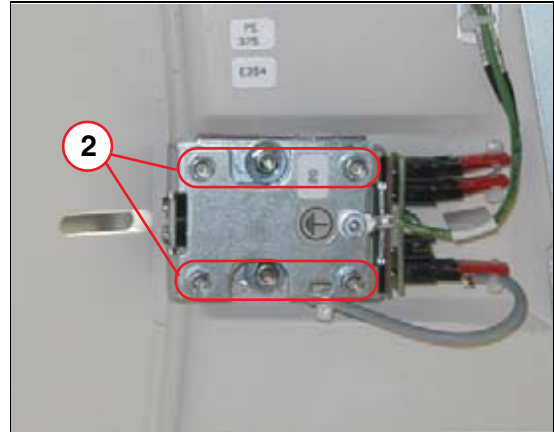

Fig. 89: Adjustment of skew
3. Adjust the position of the marker so that the line across the table hits the mark on the table. Use the adjusting nuts in pairs (circle 2)(Fig. 89 / p. 126)